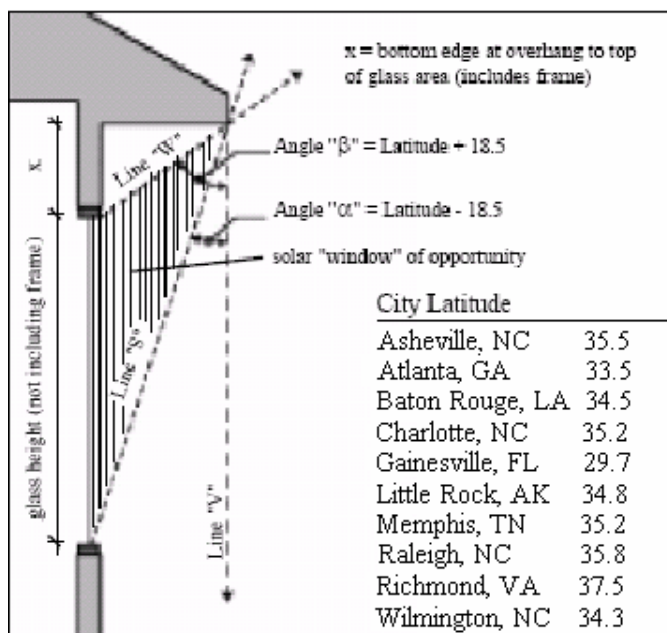

Figure 2. Diagram for sizing overhang
3. Size overhangs properly (see figure 2)